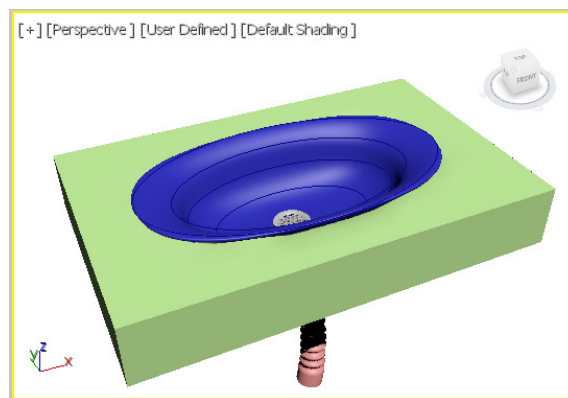

Figure 15-75 The vertices moved to view the inner portion of washbasin
5. Select the **Vertex** sub-object level and modify the vertices of *washbasin slab* to view the inner portion of *washbasin* properly, as shown in Figure 15-75.